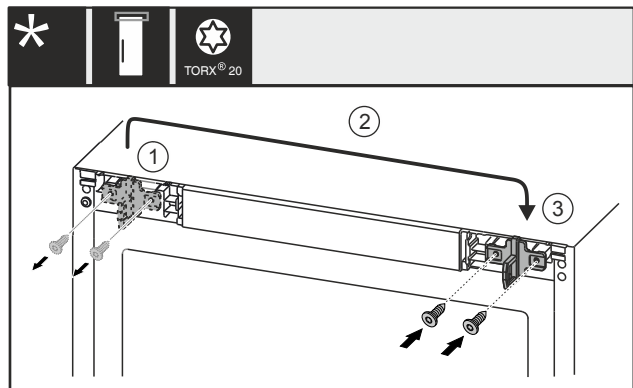

Fig. 25 With electric lock*
- Use screwdriver to unscrew the screws Fig. 25 (1)*.
- Move the locking hook Fig. 25 (2) to the opposite side.*
- Use screwdriver to place the screws Fig. 25 (3) and tighten them.*